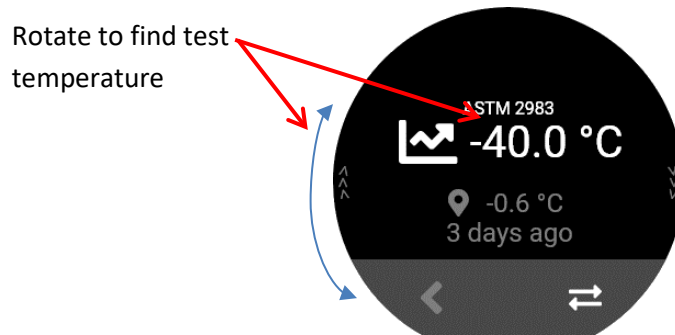

Figure 35: Switch Test Temperatures Screen
26. Rotate the Base Unit controller to scroll to the test temperature you want. See Figure 35.